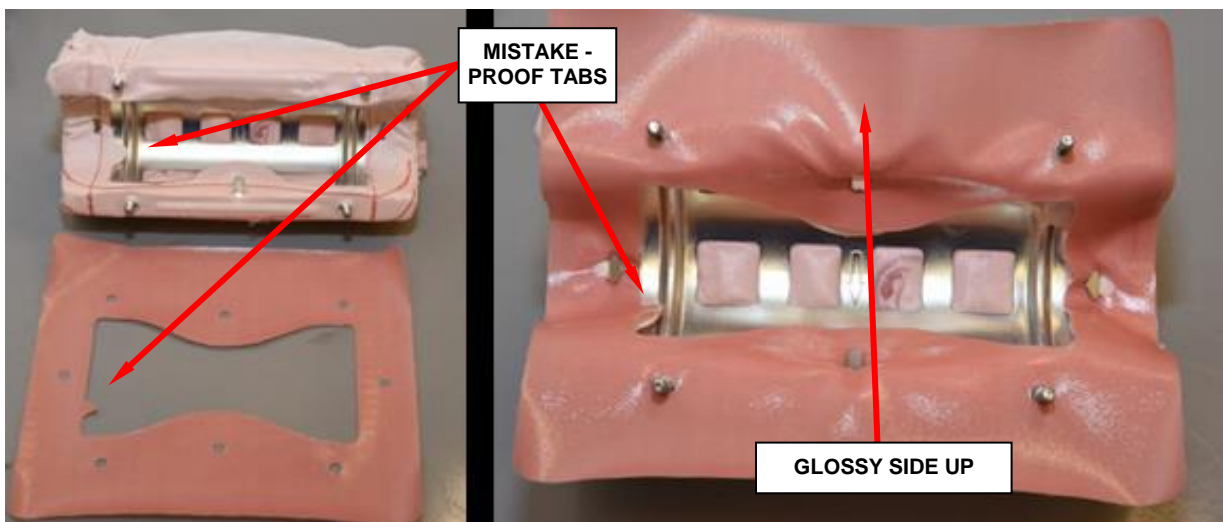

Figure 37 – Fabric Gasket to Cushion
- f. Place the fabric gasket, glossy side up, onto cushion. Mistake-proof tab should be aligned to the tab on the cushion (Figure 37).